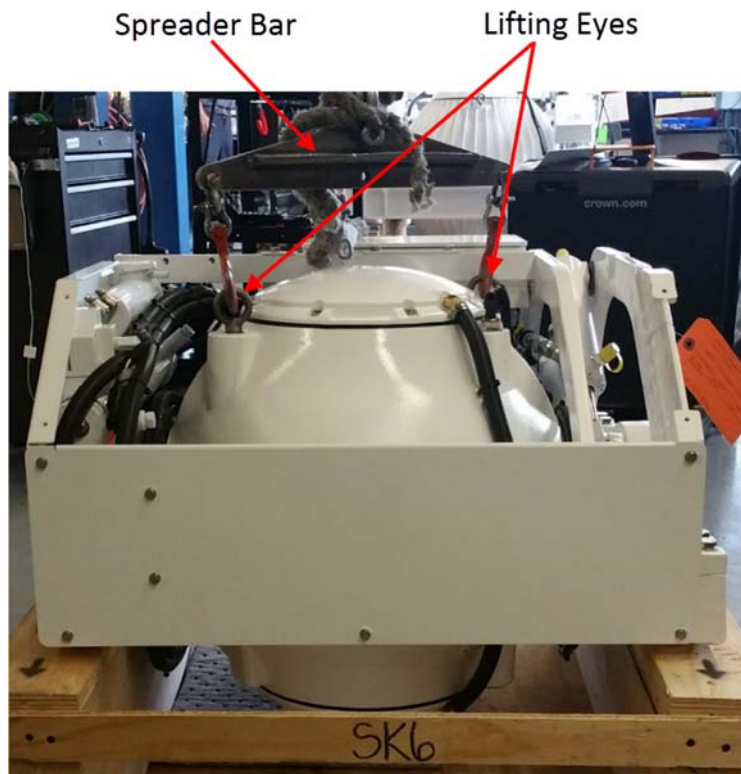

FIGURE 4 – LIFTING ARRANGEMENT
- 5) Attach spreader bar to the two lifting eyes located on the top of the Seakeeper enclosure. Stay clear of any other parts on the Seakeeper. Seakeeper 6 weighs 395 kg (870 lbs). See Figure 4 below.